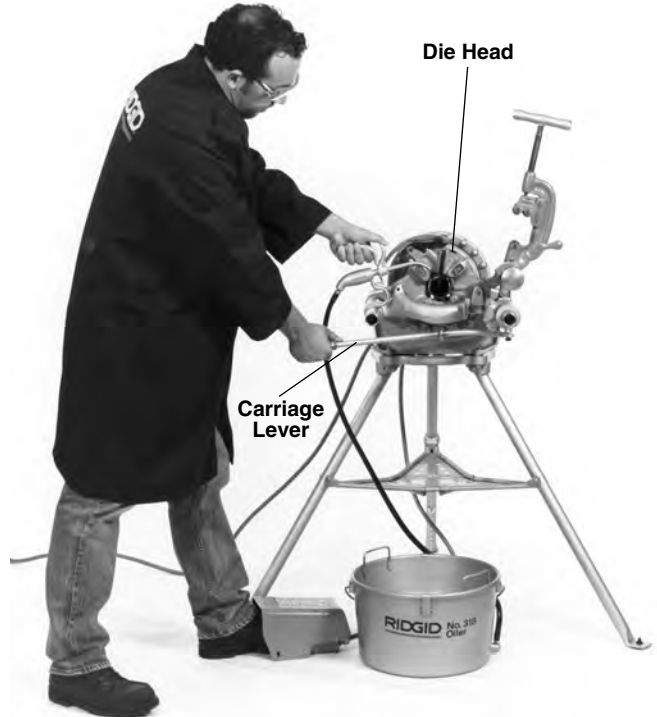

Figure 11 – Threading Pipe with Quick or Self-Opening Die Head
4. Assume the correct operating posture (*Figure 11*).
1. Check to insure the cutter and reamer are to the rear of the carriage (Figure 11).